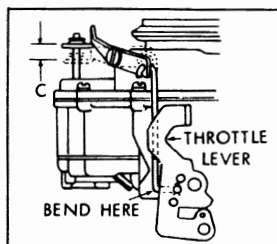

FIGURE 3
b. See Figure 3 and Adjustment Data Table. Hold carburetor in vertical position and operate pump to permit check ball to take its normal position on seat. With choke valve held open and pump rod in center hole of throttle lever, measure travel (C) of accelerating pump as throttle valves are moved from fully closed to wide open position. When pump travel is not as specified in the table, bend pump rod as required at angle.
PUMP ADJ. Fig.3